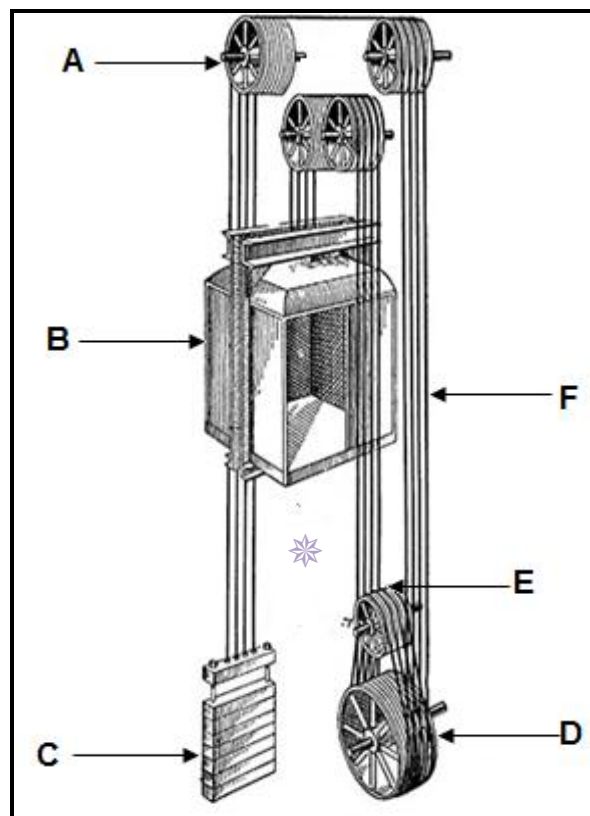

FIGURE 4
4.1 Identify the labelled parts of the elevator in FIGURE 4 by writing the answer next to the letter (A–F) in the ANSWER BOOK.